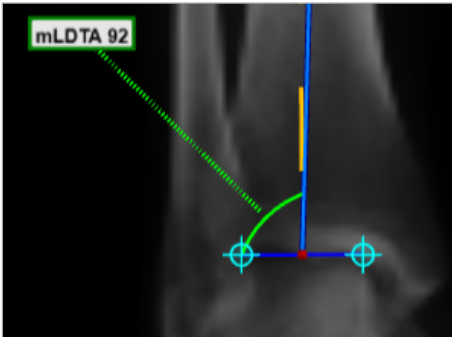

Figure 78
3. The proximal tibial markers are placed on the medial and lateral concavities of the tibial plateau. **(Figure 78)**